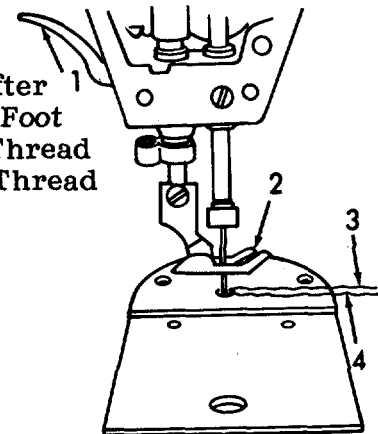

Figure 2-31. Catching the Bobbin Thread.
h. Catching the Bobbin Thread (Refer to Figure 2-31).
- (1) Raise the presser bar hand lifter (1) to lock the presser foot (2) in its raised position.
- (2) With the left hand, hold the end of the needle thread with a little slack and up towards the arm of the machine